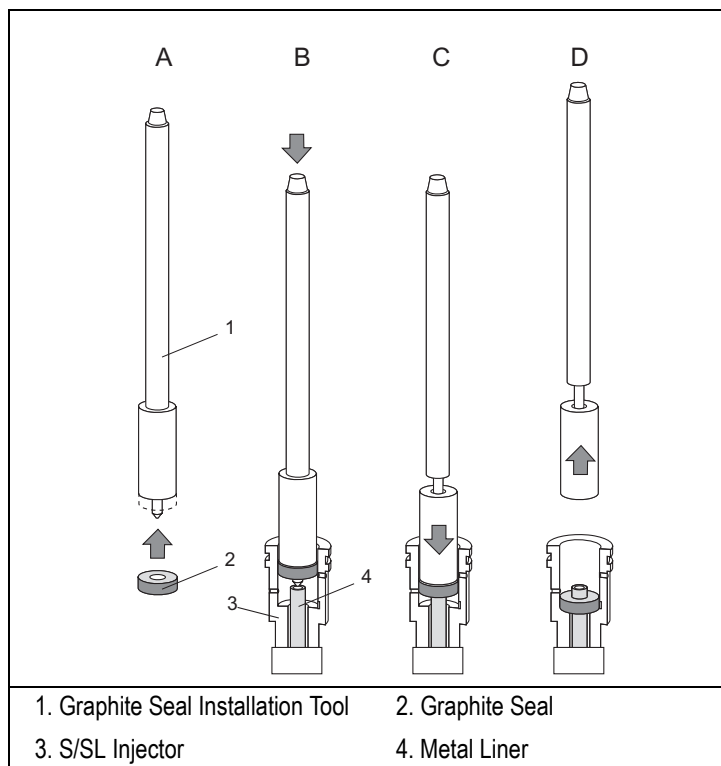

Figure 15-23. Graphite Seal Installation Tool
10. Slide the appropriate graphite seal and push it onto the metal liner from the top of the injector by using the appropriate tool as shown in Figure 15-23.